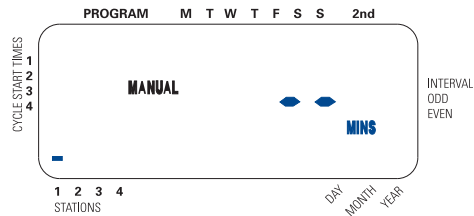

Figure 11: Manually Running Individual Stations
- Press the **MANUAL** key. Then press **NEXT** three times. The display will show a blinking cursor on station 1 along with -- MINS. [See Figure 11]